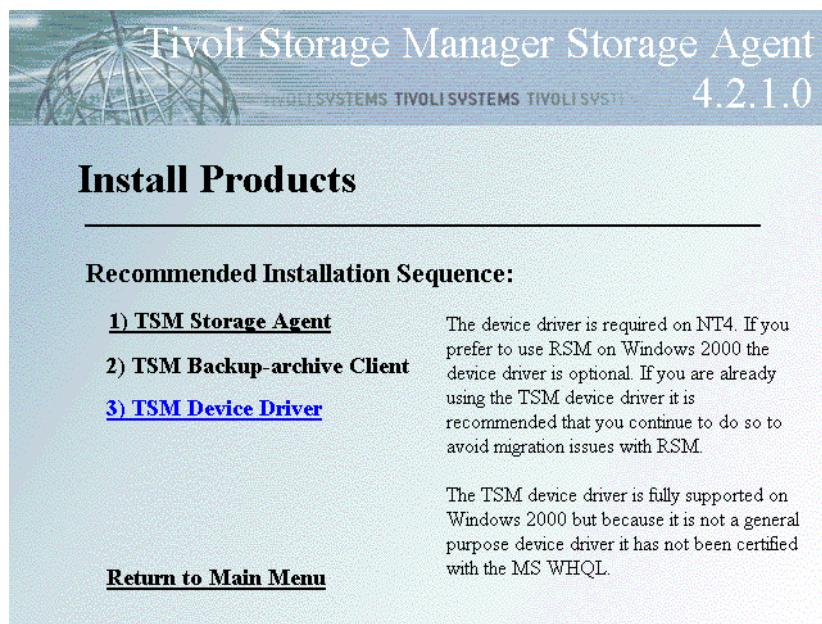

Figure 6-30 TSM Install GUI
location. The install process then extracts the files. The TSM Install GUI starts automatically: select **Install Products** then **TSM Storage Agent** (Figure 6-30).
6. Next, install the TSM device driver by selecting option 3 on the install GUI (Figure 6-30 on page 259). The installation is straightforward. Ensure that the